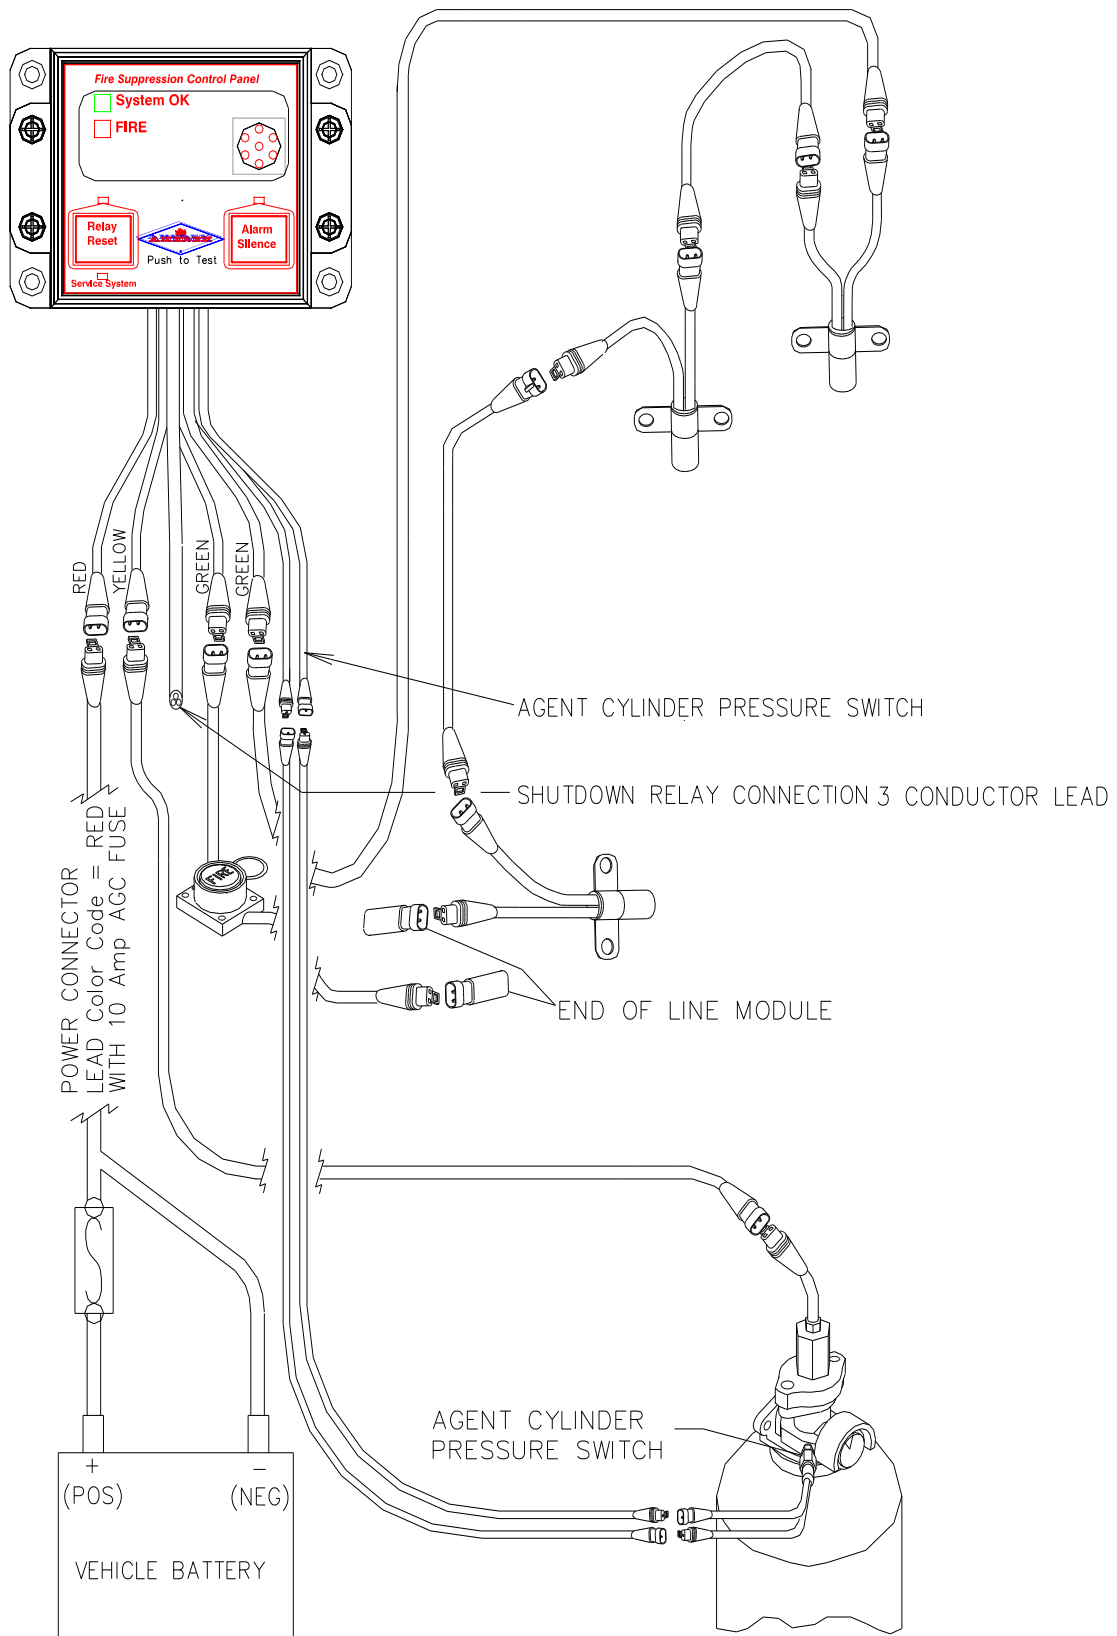

Figure 5 Control Panel System Typical Configuration
5. To find the faulty circuit or component, remove the End of Line Module from one of the green color coded pig-tail leads. Plug the first circuit component back into the corresponding green color coded pig-tail from the panel. Now, plug the End of Line Module into the male plug at the end of that component. If the green LED on the panel again illuminates, that component is good. Repeat this process one component at a time until the faulty component(s) is (are) found, and the circuits are connected with EOLs in place. Note: there are two green color coded circuits. See Fig. 5.
- Repair unused agent cylinder pressure switch wire. Plug the unused leads together. The switch leads are single conductor equipped with a blue color coded male/female pluggable connector. They exit the panel in the same circular connector as the red, black and white relay leads. See Fig. 5.